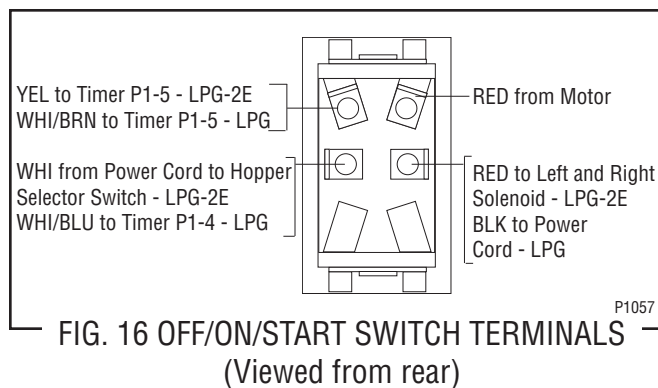

FIG. 16 OFF/ON/START SWITCH TERMINALS
5. Refer to Fig. 16 when reconnecting the wires.